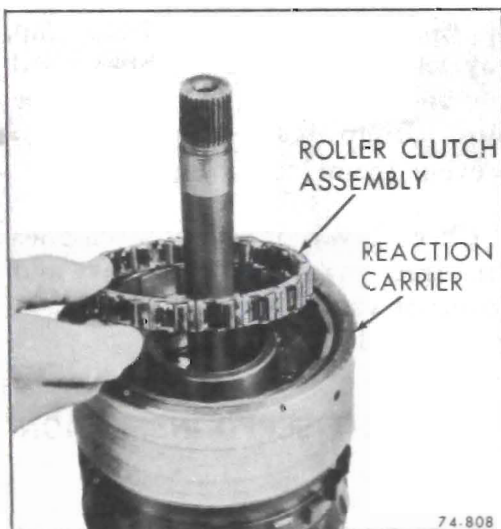

Figure 76-597
19. Install roller clutch assembly into reaction carrier. See Figure 76-597.